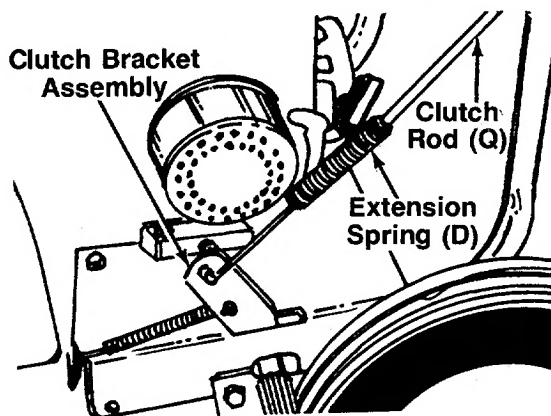

FIGURE 11.
3. Hook top (hooked end) of clutch rod into clutch grip. Hook spring into clutch bracket assembly. See figure 11. Adjust nut on the clutch rod so that when the clutch grip is all the way up, there is no slack in the spring.
4. Thread hex jam nut (M) onto clutch rod, and lock it against the lock nut (E).